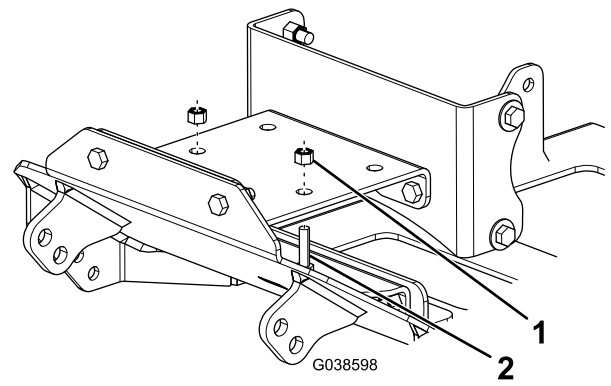

Figure 5
7. Secure the front winch bracket to the vehicle bumper using 2 bolts (5/16 inch) and 2 locknuts (5/16 inch) as shown in Figure 5.